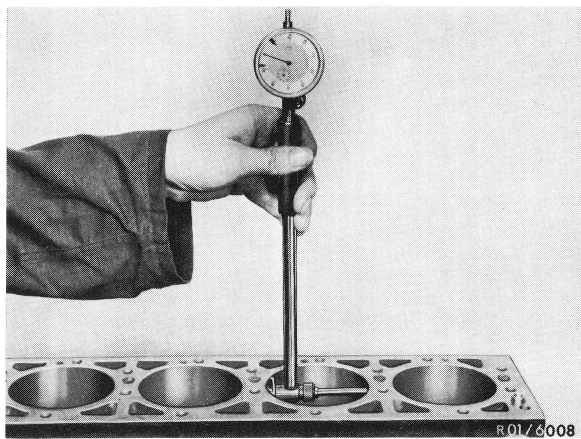

Fig. 1
- 1 Clean cylinder bores and measure wear with internal measuring instrument at three different spots (top, center and bottom lengthwise and crosswise) (Fig. 1), then determine repair stage resulting from wear.